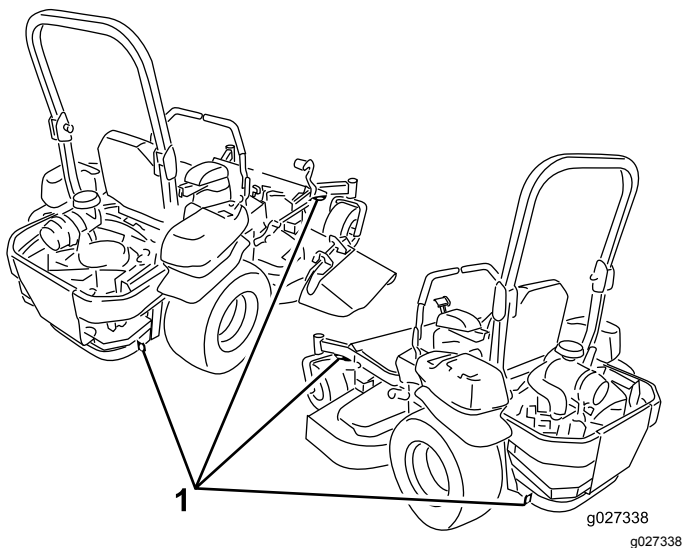

Figure 37
5. Use the metal tie-down loops on the machine to securely fasten the machine to the trailer or truck with straps, chains, cable, or ropes (Figure 37).